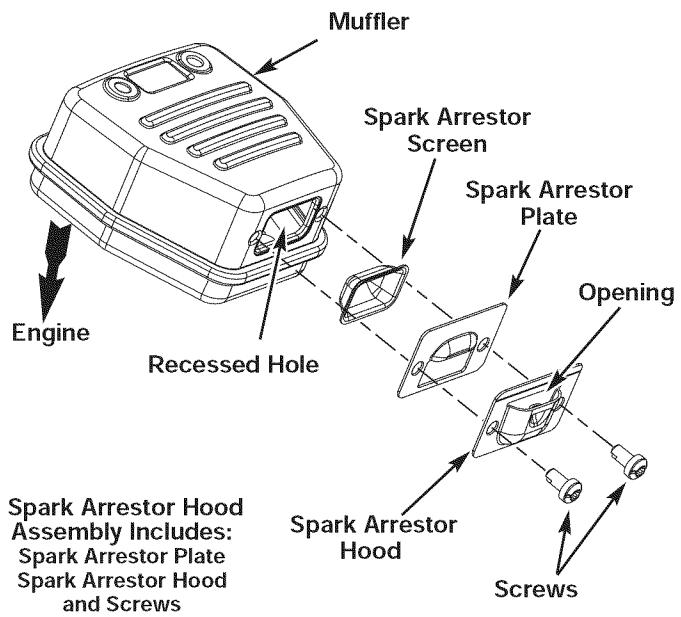

Fig. 28
2. Locate the muffler, but do not remove it. Find the two (2) screws on the bottom of the muffler (Fig. 28). These two screws hold the Spark Arrestor Hood Assembly and the spark arrestor screen to the bottom of the muffler. Remove the two (2) screws using either a torx #20 or flat blade screwdriver.
6. Place the spark arrestor plate on top of the spark arrestor with the "raised" side up and the opening facing towards the engine (Fig. 28).
7. Place the spark arrestor hood on top of the spark arrestor plate with the "raised" side up and the opening facing AWAY from the engine (Fig. 28). Verify that the exhaust will be directed AWAY from the engine.